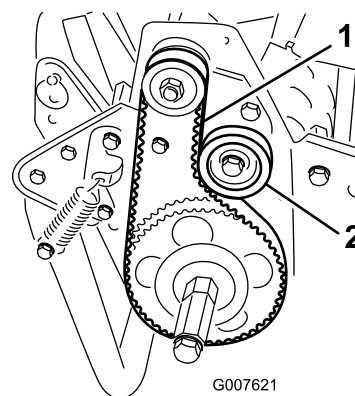

Figure 38
2. Check the tension by pressing the belt at mid span of the pulleys (Figure 38) with 18 to 22 N (4 to 5 lb) of force.
the belt until the desired belt tension is attained (Figure 38).